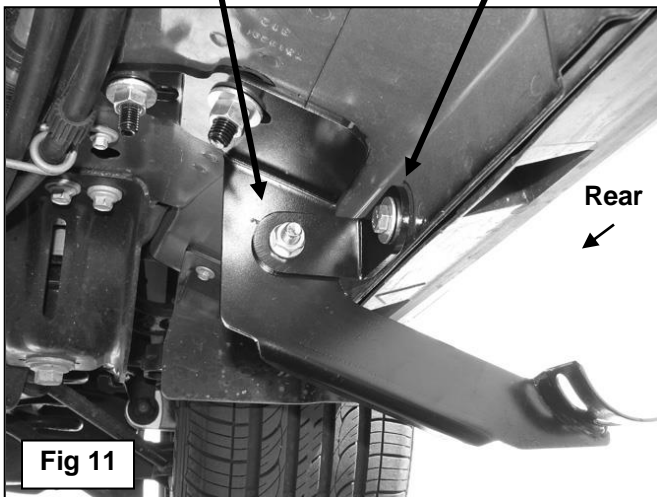
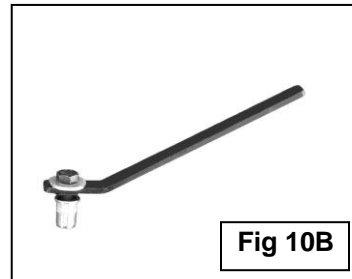
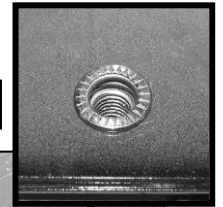

Fig 11
Fig 10B
Fig 10C
11. Assemble the Threaded Insert installation tool as pictured in **Figure 10B**. Hold the handle and push the insert into the drilled hole in the pinch weld. **NOTE:** Insert must fit snug in hole. If necessary, use a small hammer to carefully tap the insert into the hole until the rim on the insert is flush against the pinch weld. Firmly hold the tool handle and tighten the hex bolt in the tool to expand the insert in the hole. Continue until threads are flush with the top of the insert, **(Figure 10C)**. Remove the tool and hardware. Bolt the Support Bracket to the threaded insert with (1) 8mm x 30mm Hex Bolt, (1) 8mm Flat Washer and (1) 8mm Lock Washer, **(Figure 11)**. Tighten hardware at this time.
Use the assembled tool (Fig 10B) to hold the Insert fully in place. Tighten hex bolt in Insert until threads are pulled up to the top (rim) of the insert